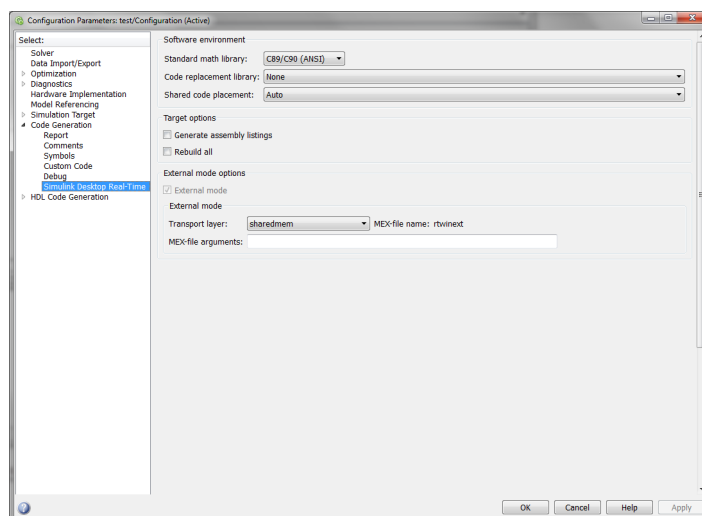

Figure 27: The 'Simulink Desktop Real-Time' pane.
- enter the parameters in the 'Simulink Desktop Real-Time' pane according to Figure 27, and click 'OK' button